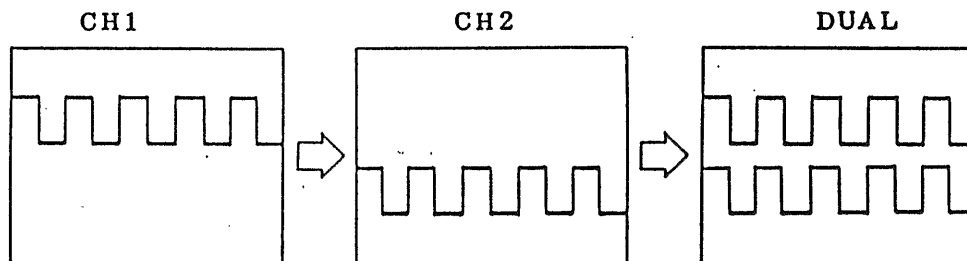

Figure 6-3
- 2) Apply the calibration signal also to the CH2 INPUT terminal (19) with the probe as is the case for CH1. Set the AC-GND-DC switch (20) to the AC position. Set the VOLTS/DIV switches (12) (17) to the 20 mV/DIV range and adjust the $\updownarrow$ POSITION controls (9) (21) so that dual channels of waveforms are displayed as shown in Figure 6-3.